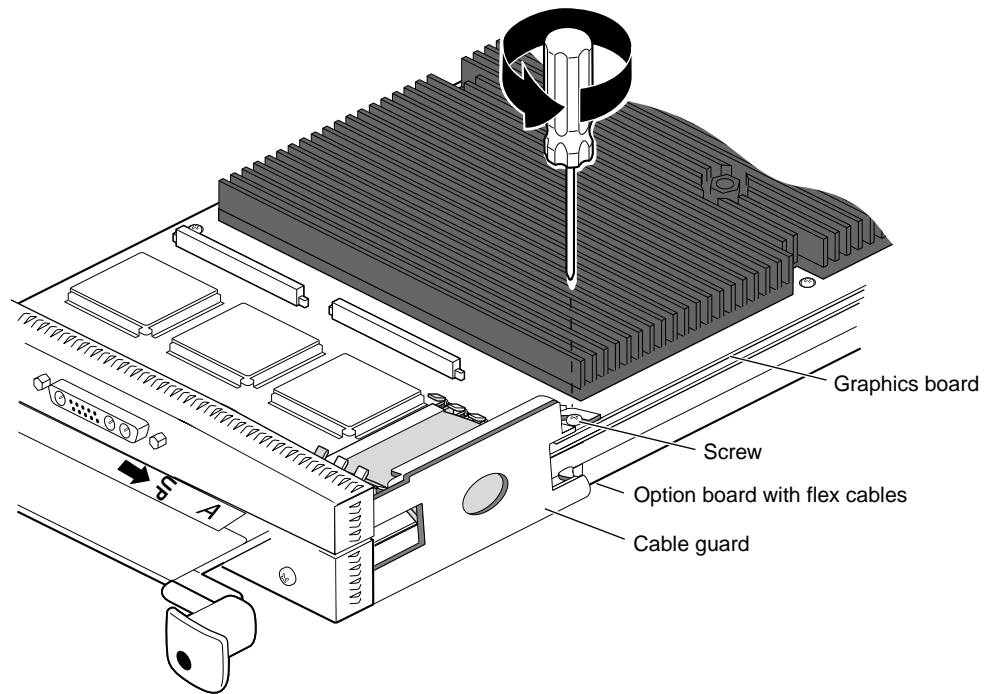

Figure 5-13 Removing the Standoff Screw
2. Using a Phillips screwdriver, remove the screw from the standoff. See Figure 5-13.